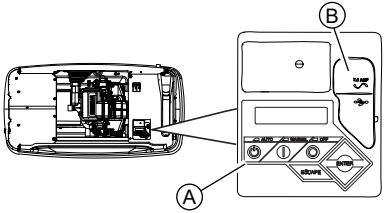

Figure 3-7. Generator Control Panel
See *Figure 3-7*. 14–26 kW ge
See *Figure 3-7*. The control panel interface (A) is located under the enclosure lid. Verify both left and right side locks are unlocked before attempting to lift lid of enclosure. Open lid as directed in *Opening the Lid*.